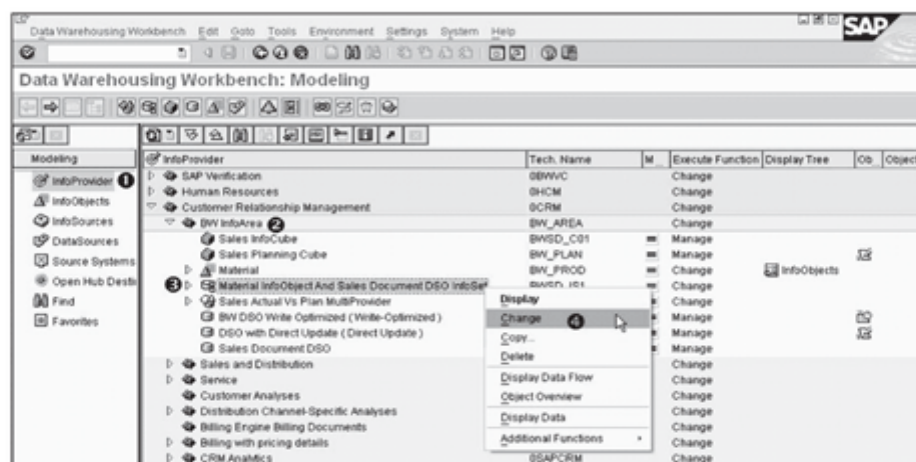

Figure 6.27 Editing the InfoSet
In DWW (Transaction RSA1), under Modeling in the Navigation section, select the InfoProvider, as shown in ❶ of Figure 6.27. Select InfoArea BW_AREA (❷). Using the context menu of InfoSet BWSD_IS1 (❸), select the Change option (❹).